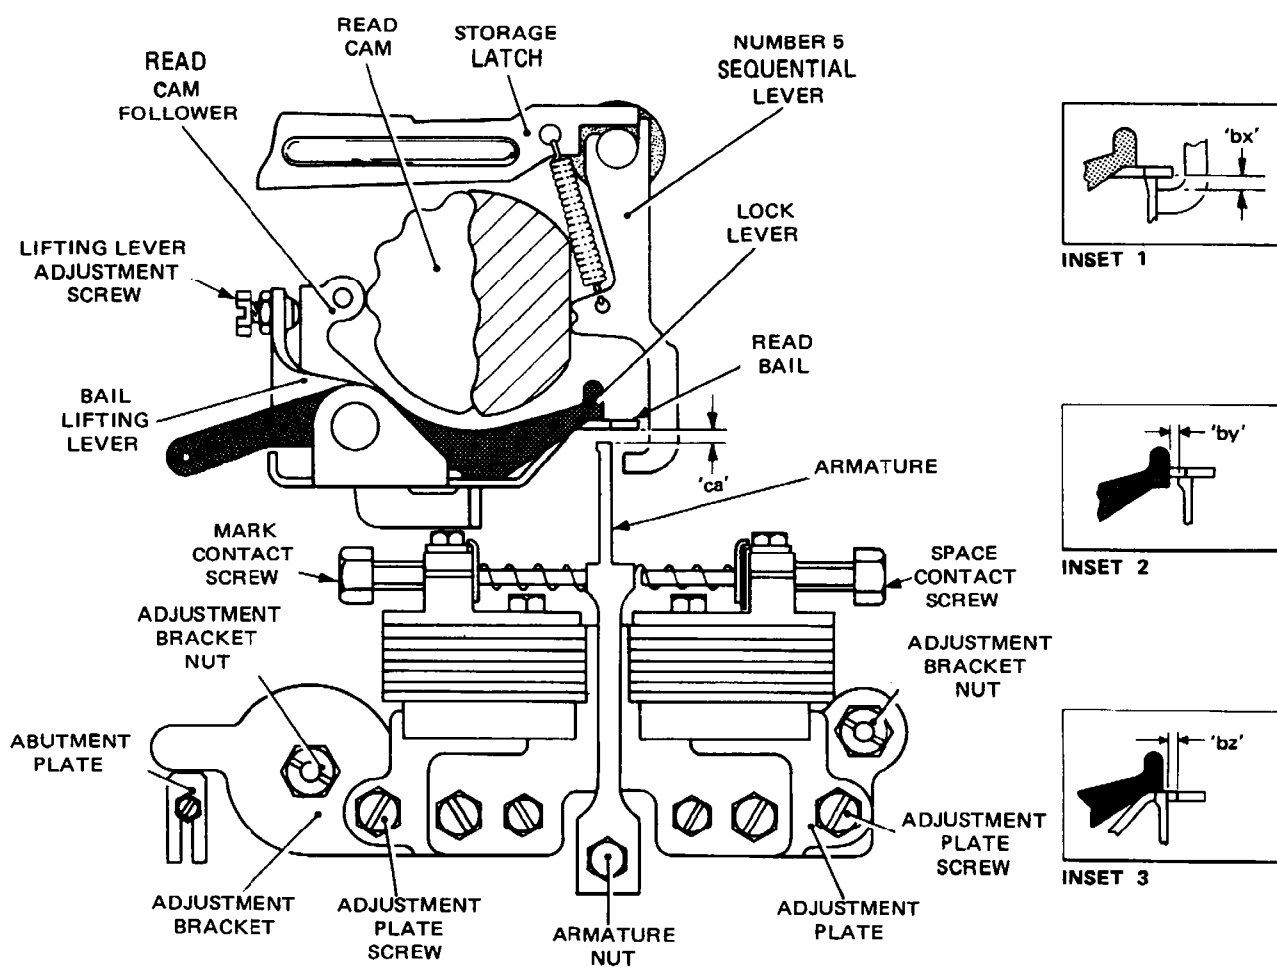

Fig. 4.82 ELECTROMAGNET ARMATURE/READ BAIL CLEARANCES
90.1 Move the electromagnet armature, Fig. 4.82, over to the space stop screw and turn the machine by hand until the toe of number 5 sequential lever has dropped in under the read bail and the bail is resting on top of the armature, as shown in inset 1. Lift the sequential lever and check that there is a clearance of 0.008–0.018 inch (dimension 'bx') between the bail and the sequential lever.
91.1 Move the electromagnet armature, Fig. 4.82, over to the space stop screw and turn the machine by hand until the lock lever drops down beside the armature, as shown in inset 2. Measure the horizontal clearance (dimension 'by')
- 92.1 With the machine in the rest condition and the read cam follower, Fig. 4.82, on one of the peaks of the cam, check that there is a vertical clearance of 0.036–0.046 inch (dimension 'ca') between the top of the armature and the underside of the read bail.